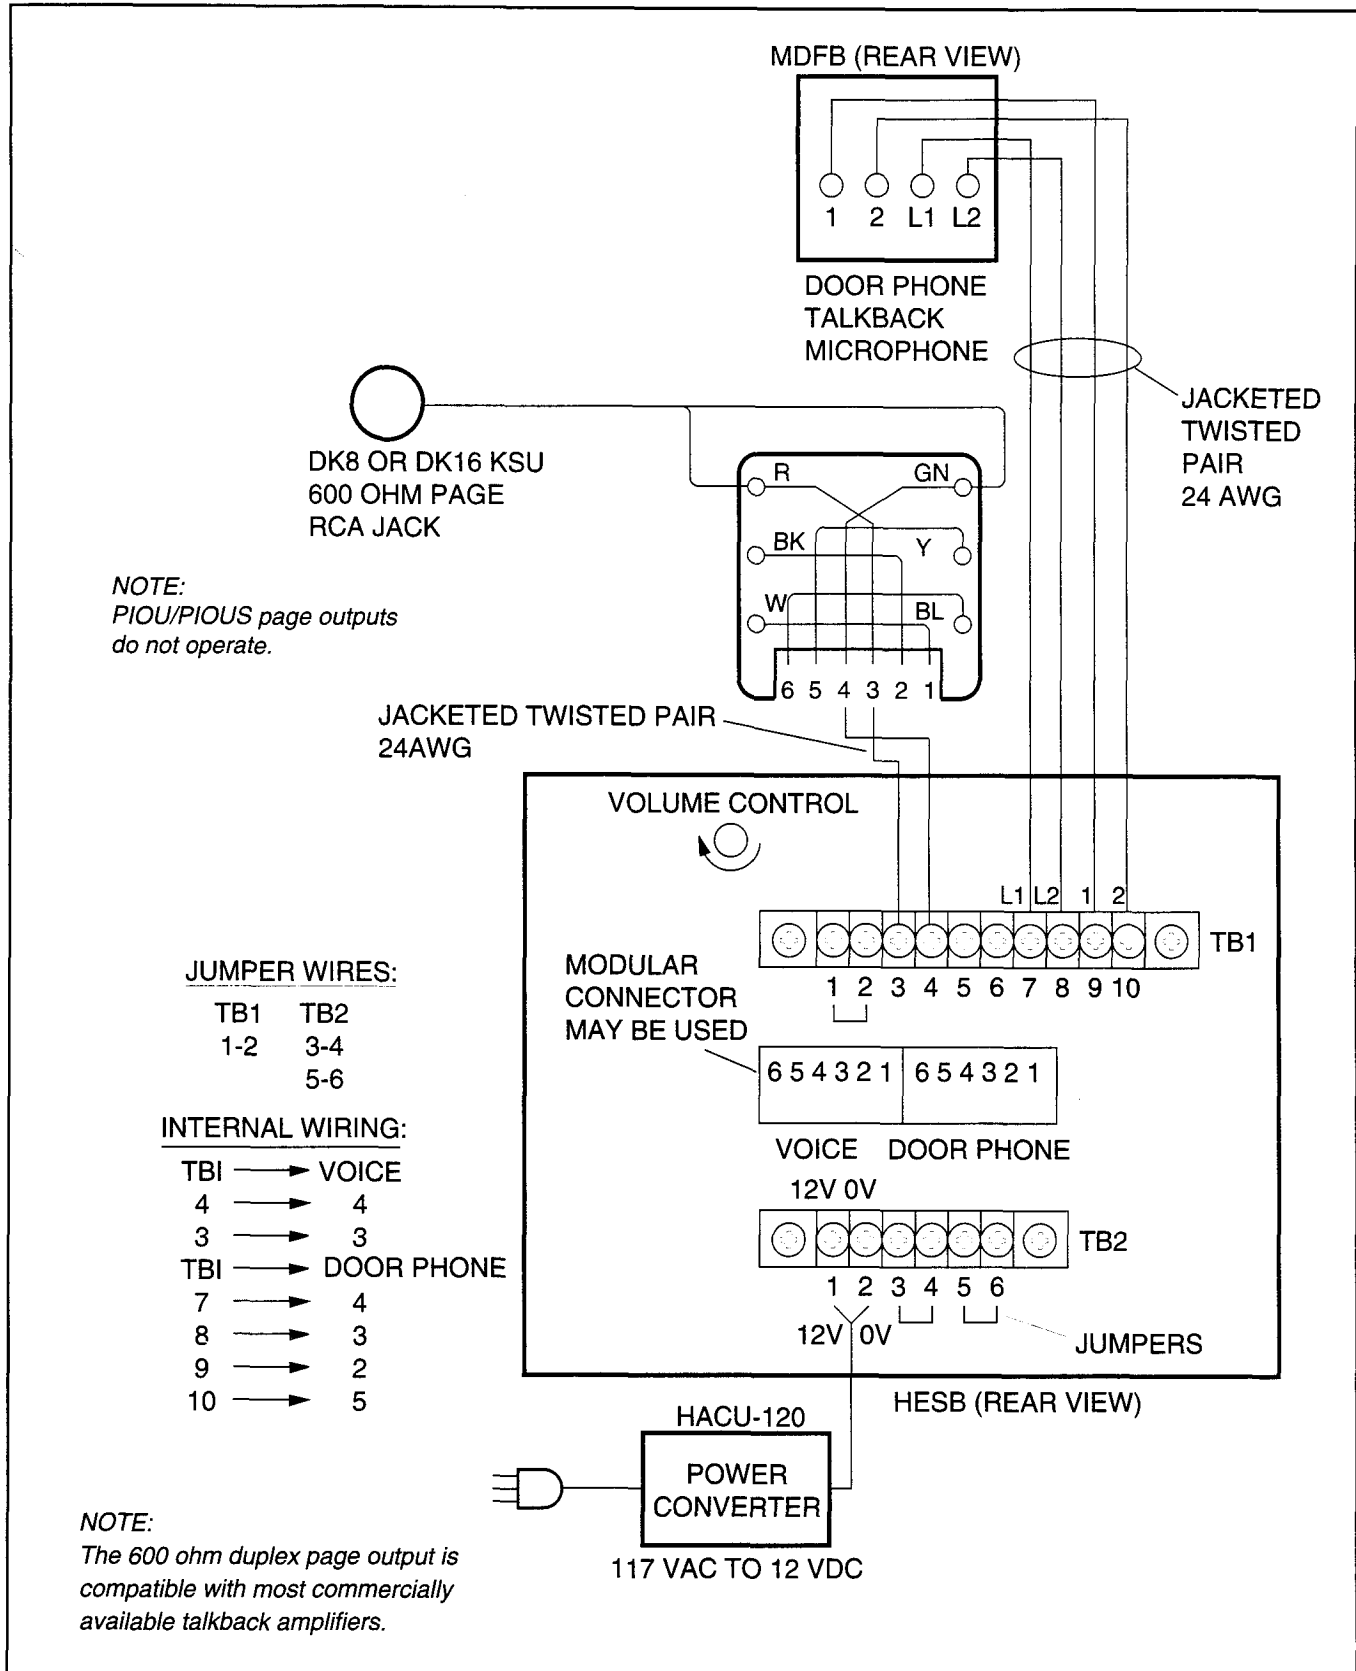

FIGURE 7-13
4.25 HESB/MDFB Talkback Amplified Speaker Installation. Install the HESB/MDFB Talkback Amplified Speaker option in accordance with the following steps (refer to Figure 7-13):